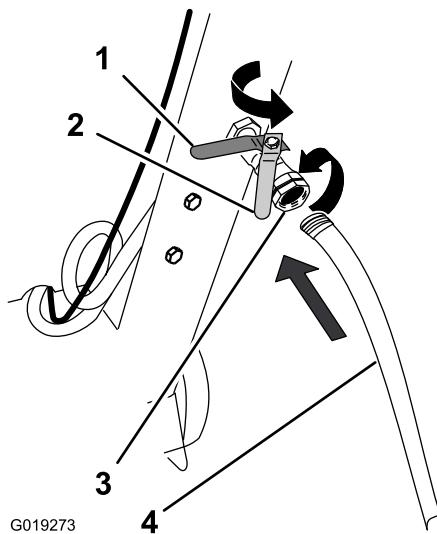

Figure 28
2. At the back of the machine and below the operator's console, locate the water shut off valve and coupling (Figure 28).
3. Ensure that the handle for the shutoff valve is in the Off position (Figure 28).
4. Align the hose with the coupling and thread the coupling and hose together (Figure 28).
7. **If wet sawing**, rotate the handle of the water shutoff valve to the On position (Figure 28).
3. If wet sawing, rotate the handle of the water shutoff valve to the Off position (Figure 28).